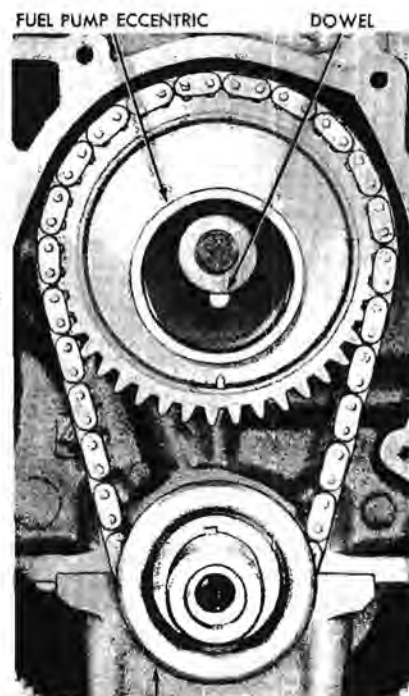

FIG. 35—Fuel Pump Eccentric and Front Oil Slinger Installed
2. Install the fuel pump eccentric, washers and camshaft sprocket cap screw. Torque the sprocket cap screw to specifications. Install the crankshaft front oil slinger (Fig. 35).